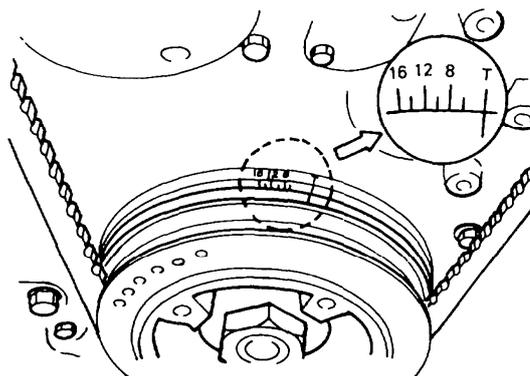

Figure 30 Timing Mark Alignment
- Rotate the crankshaft by hand in a clockwise direction, to align the crankshaft pulley and the TDC mark on the timing cover (Figure 30) with the number one cylinder at TDC.
- h. Rotate the crankshaft by hand in the direction of rotation, until the TDC mark on the crankshaft pulley aligns with the timing mark on the timing case. The advance line should now be in line with the pointer (Figure 30).